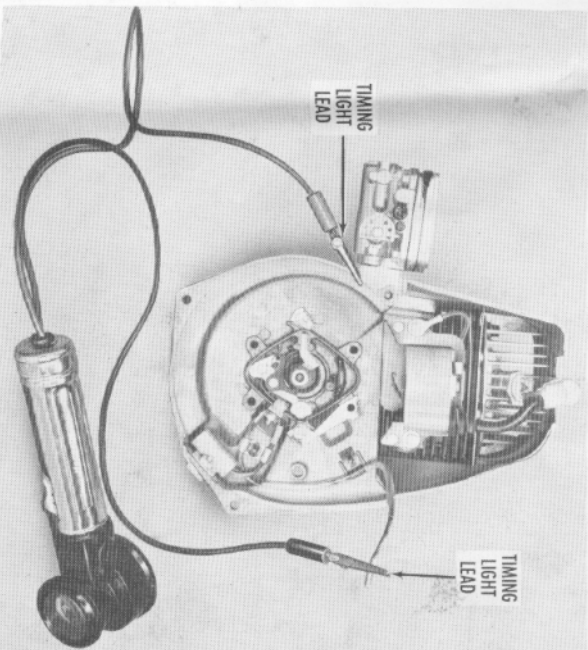

FIGURE 16
12. Slowly rotate the crankshaft counterclockwise until the degree wheel reading is 25 degrees to the left of 90 degrees (TDC). This is the before top dead center setting (BTDC) (Figure 16).
14. Connect one timing light lead to the breaker point lead and the other lead to the engine (Figure 16).